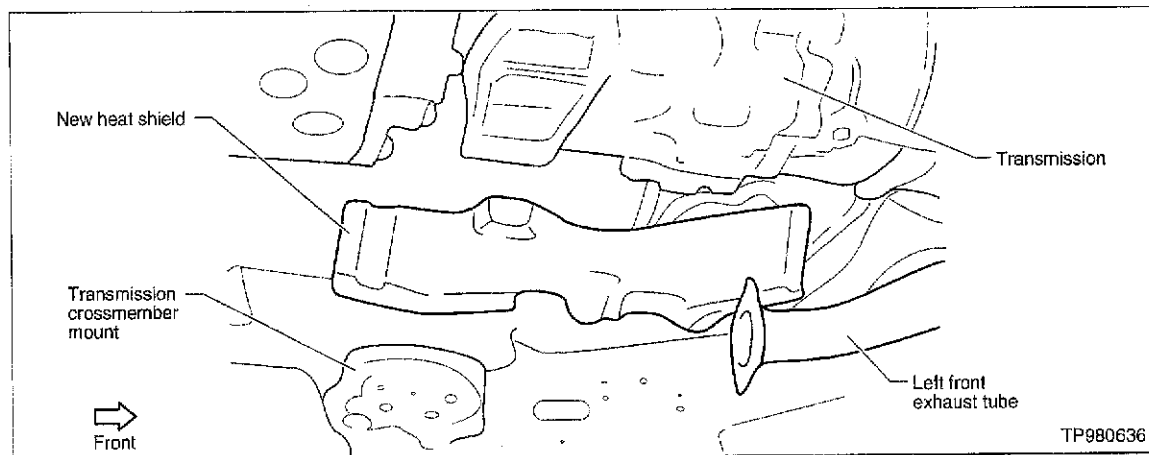

Figure 8
24. Install the new underbody heat shield to the floor (see Figure 8).